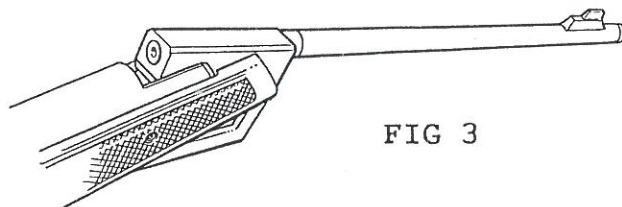

FIG 3
3) AFTER INSERTING A PELLET, CLOSE THE BARREL FULLY. SERIOUS DAMAGE WILL RESULT IF THE RIFLE IS FIRED WITH THE BARREL PARTLY OPEN. (FIG.3)